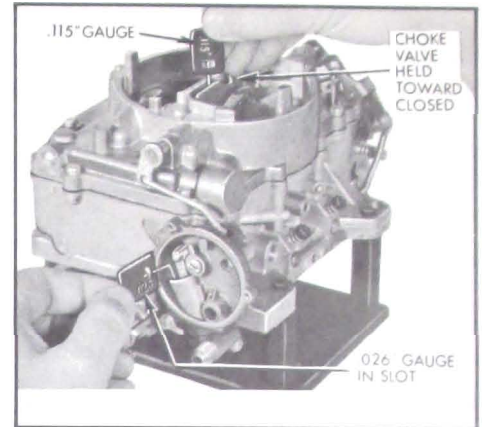

Figure 3-84—Choke Piston Adjustment
1. Adjust Choke Piston Position. Inside choke piston bore on left side, about 1/2 inch down, is a small slot. Insert 1/8 inch bent end of .026" wire gauge into upper end of slot; then close choke valve until piston stops against gauge. Check opening between upper edge of choke valve and inner wall of air horn using .115" Wire Gauge. See Figure 3-84. If adjustment is required, place Tool J-5197 on lower section of choke rod and bend as necessary.